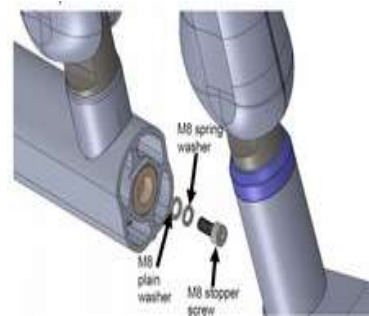

Figure 28
- Rotate and position the Scissor-arm in line to the straight arm as shown in Figure 28.
- Fix the M8 locking screw along with M8 spring washer and M8 plain washer using 6mm Allen key as shown in Figure 28.